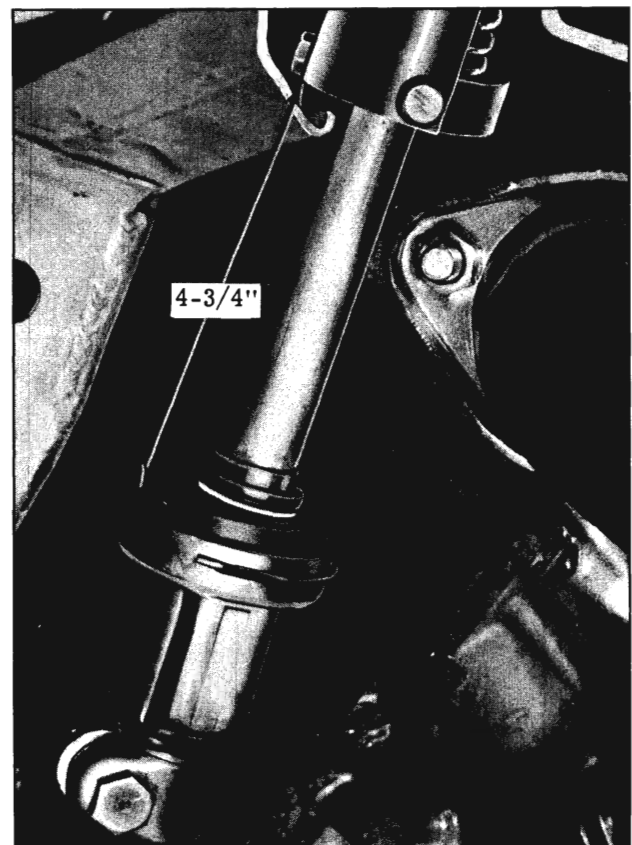

Fig. 4-292 Steering Column Position
3. On manual steering equipped cars, adjust column up or down to obtain 4-3/4" as shown in Fig. 4-292. Coupling must align with